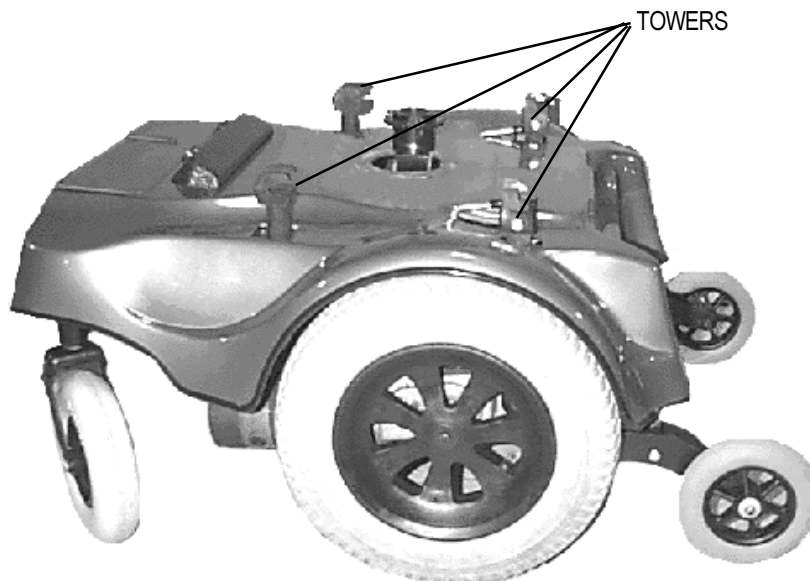

FIGURE 24.
2. Install the four seat towers into their respective holes. Use the lowest height setting. See figure 24.